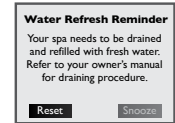

Figure 15.0f
21. Water Refresh Reminder: This message will appear when the “Water Refresh” timer has expired (Figure 15.0f). The water needs to be drained and refilled with fresh water.